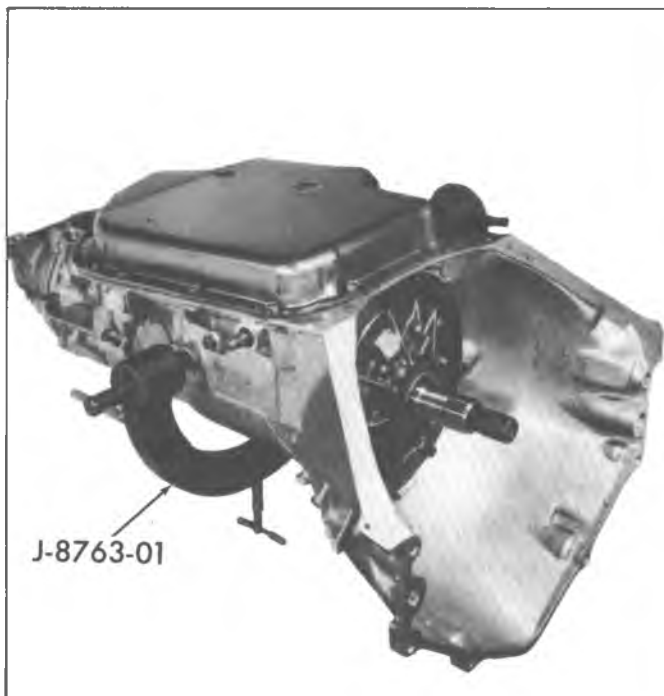

Fig. 2T--Transmission in Holding Fixture
2. Install holding Fixture J-8763-01 on transmission so that modulator assembly will be located on side of holding fixture nearest bench (fig. 2T).
3. Install fixture and transmission into holding Tool Base J- 3289-14 with bottom pan facing up (fig. 2T).